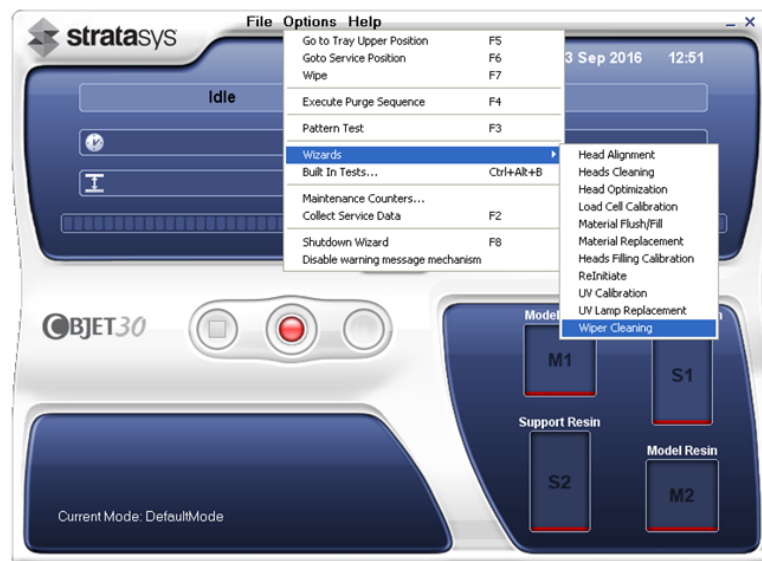

Figure 6-43 Starting the Wiper Cleaning wizard
2. Start the Head Cleaning wizard from the *Options* menu (see Figure 6-43 on page 6-37).